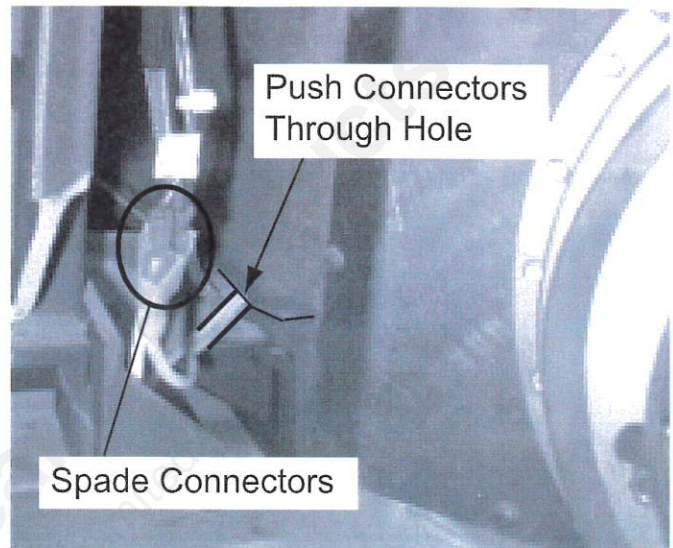

Figure 7
10. The wire leads to the igniter are connected to the wire harness with 1/4 inch male / female spade connectors. Disconnect the male/female spade connectors. Push the connectors through the cast firebox opening in the back of the appliance into the ash pan opening. Remove the igniter from the ash pan opening in the front of the appliance (Figure 7).
14. Re-connect the wires to the 2 leads with the spade connectors (**Figure 7 on page 3**).